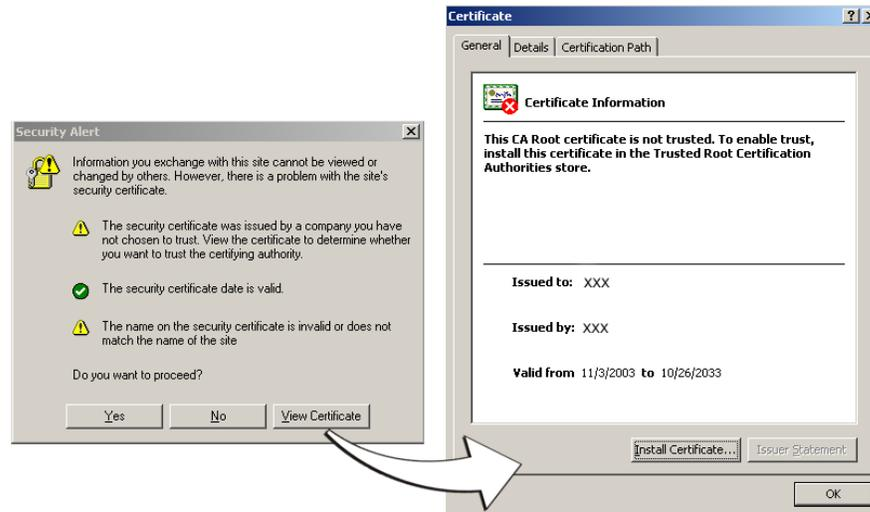

FIG. 73 Security Alert and Certificate popups
4. The user is then presented with a Security Alert popup window and Certificate information (FIG. 73).
- The date period given to the certificate has expired. CA-approved certificates typically come with a 2 year window of validity. Self generate certificates come defaulted with a 30 year window of validity (FIG. 73).